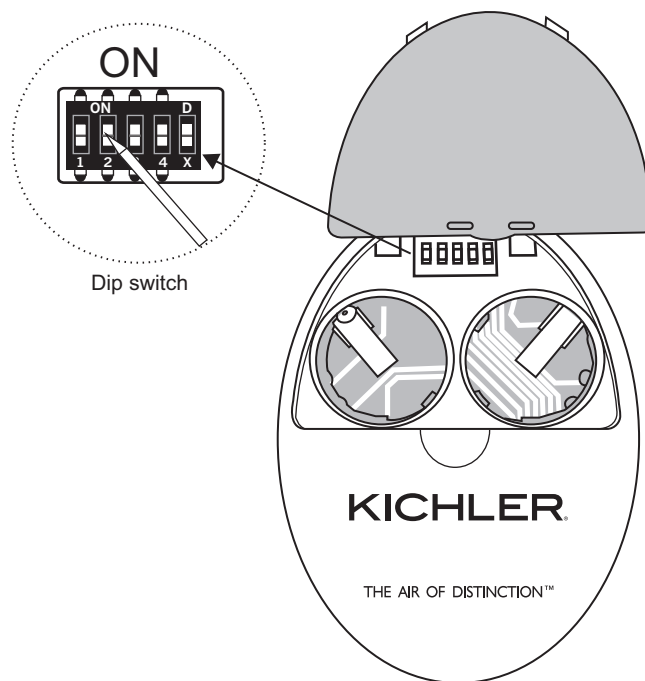

Fig. 12
Step 1. Connect the fan supply (black) wire to the black household supply wire as shown in Figure 12.
The Frequency Selector is a "Dip Switch Block" inside the Battery compartment of the Transmitter. (See figure 12) You change frequencies by arranging the small switches numbered 1 through 4 in a up or down position. 16 possible frequencies or combinations are possible.